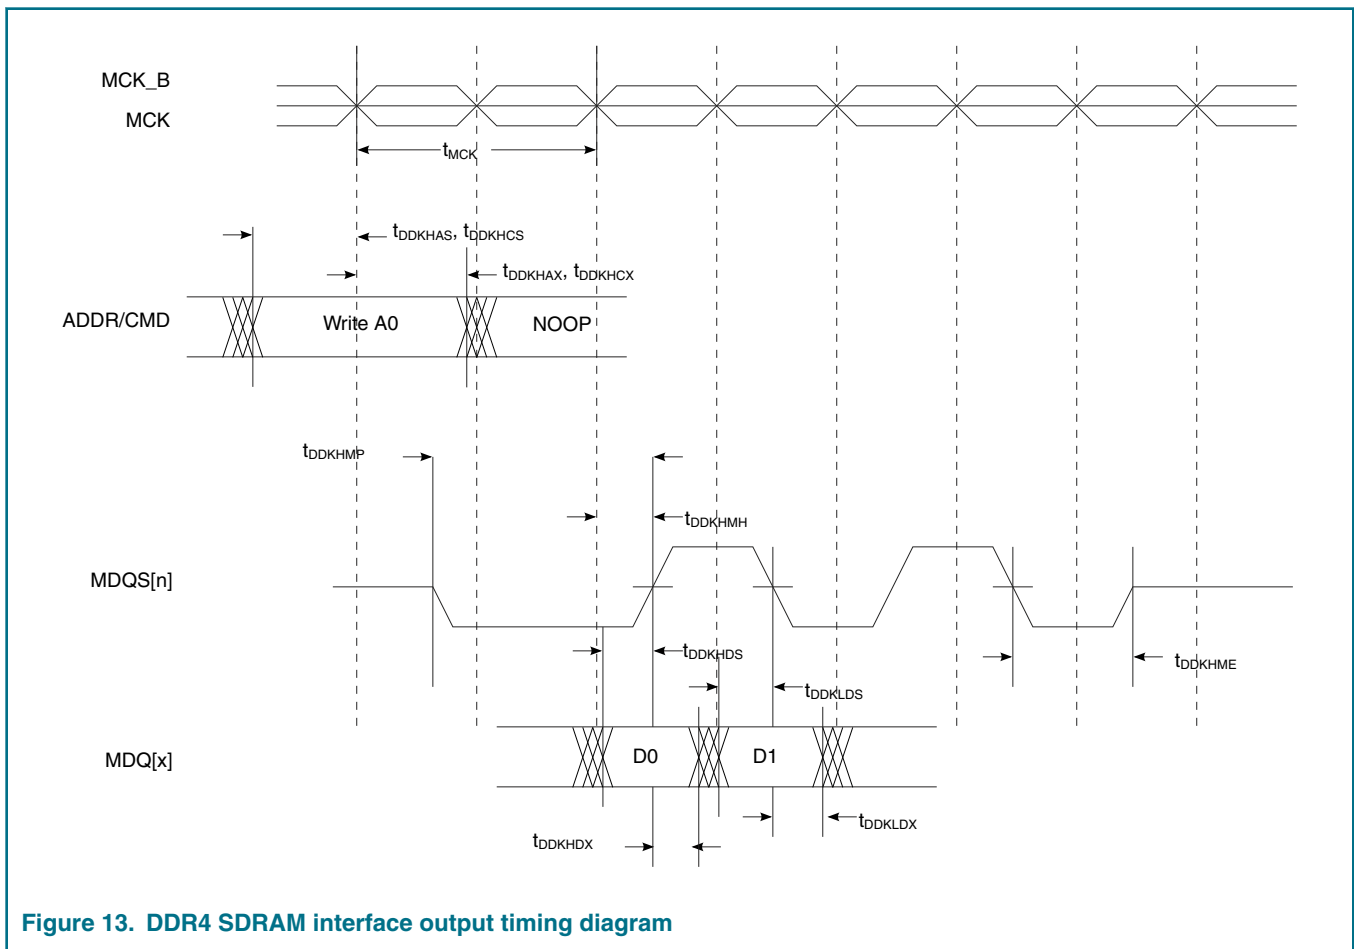

Figure 13. DDR4 SDRAM interface output timing diagram
1. All MCK/MCK_B and MDQS/MDQS_B referenced measurements are made from the crossing of the two signals. 2. ADDR/CMD/CNTL includes all DDR SDRAM output signals except MCK/MCK_B, and MDQ/MECC/MDM/MDQS/MDQS_B. 3. Note that tDDKMHM follows the symbol conventions described above. For example, tDDKMHM describes the DDR timing (DD) from the rising edge of the MCK[n] clock (KH) until the MDQS signal is valid (MH). The timing parameters listed in this table assume that the MCK and MDQS signals are programmed to launch from the controller using the same adjustment value. 4. Note that it is required to program the start value of the DQS adjust for write leveling. 5. Available eye for data (MDQ), ECC (MECC), and data mask (MDM) outputs at the pin of the processor. Memory controller will center the strobe (MDQS) in the available data eye at the DRAM (end point) during the initialization. 6. See Figure 13 . on page 82.
3. Note that t_{DDKMH} follows the symbol conventions described above. For example, t_{DDKMH} describes the DDR timing (DD) from the rising edge of the MCK[n] clock (KH) until the MDQS signal is valid (MH). The timing parameters listed in this table assume that the MCK and MDQS signals are programmed to launch from the controller using the same adjustment value.
6. See Figure 13. on page 82.